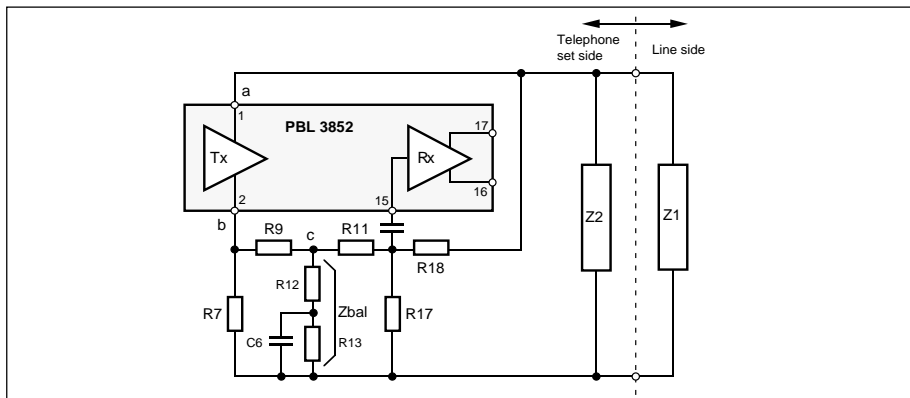

Figure 26. The side tone suppression principle.
**A short guidance for understanding the side tone principle (see fig. 26)**